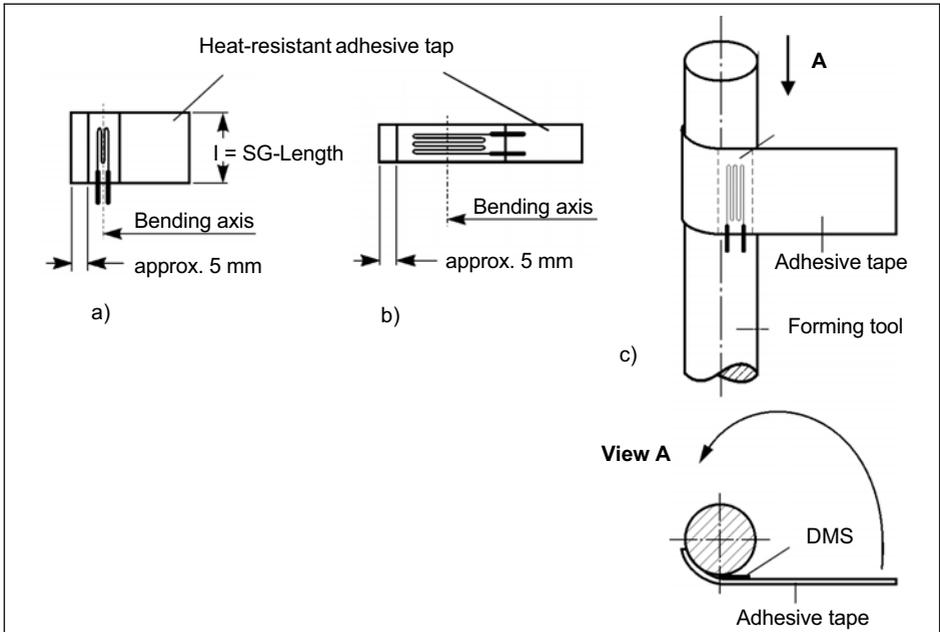

Fig. 3.3 Pre-forming method for brittle SG to fit small radii
- ▶ Place a temperature-resistant self-adhesive tape on the back of the SG (Fig. 3.3), e.g. the tape supplied